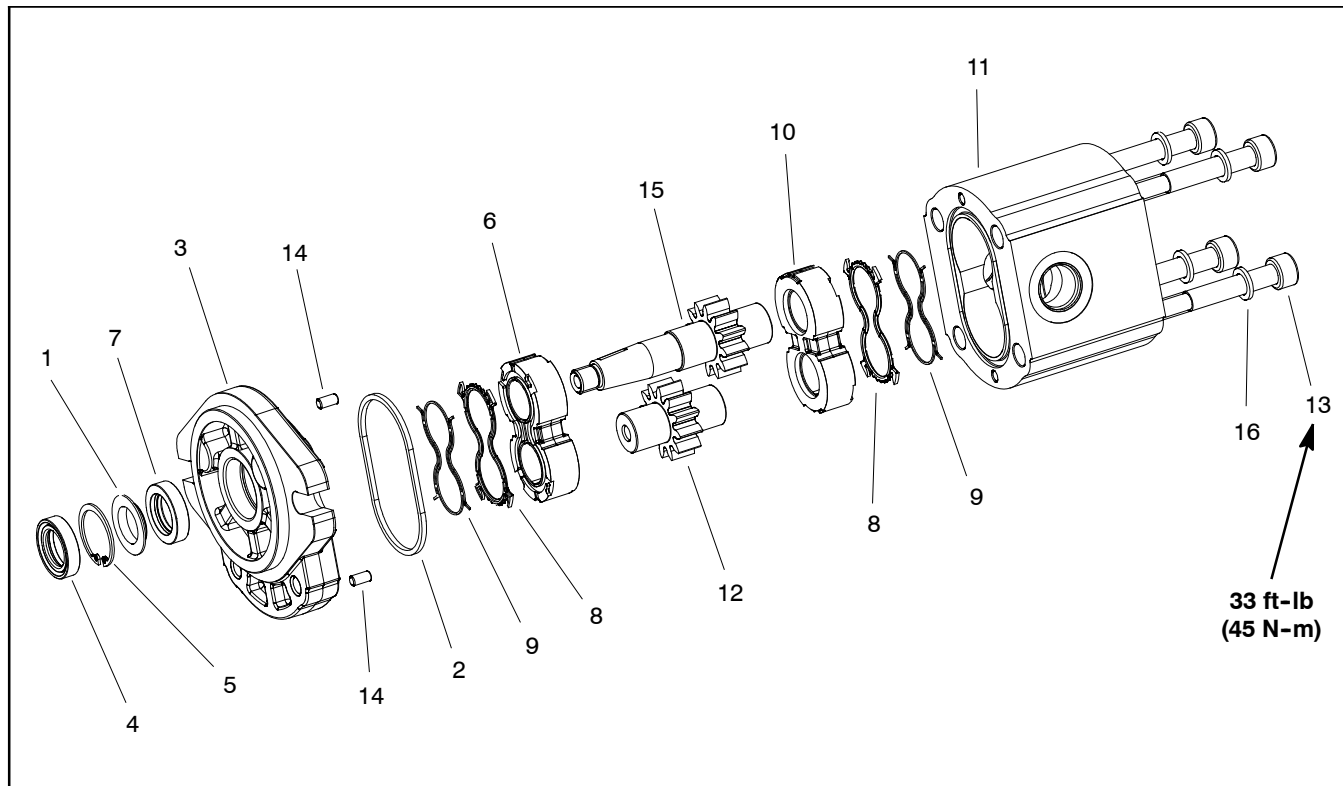

Figure 105
The engine cooling fan motor has similar construction as the cutting deck motors. The body of the cooling fan motor (item 11 in Fig. 105) includes the rear cover which is a difference from the deck motors which have a separate rear cover. Orientation of the dust seal (item 4 in Fig. 105) is different in the cooling fan motor than in the deck motors.